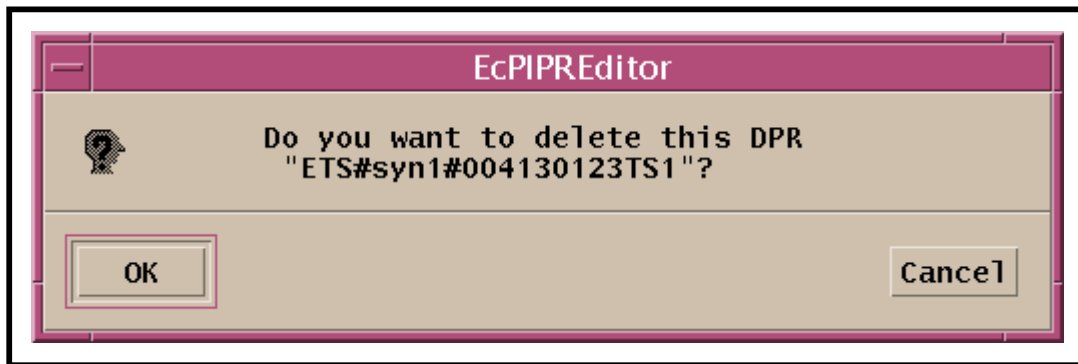

Figure 32. DPR Deletion Confirmation Dialogue Box
- A DPR deletion confirmation dialogue box (similar to Figure 32) is displayed requesting confirmation of the decision to delete the DPR.